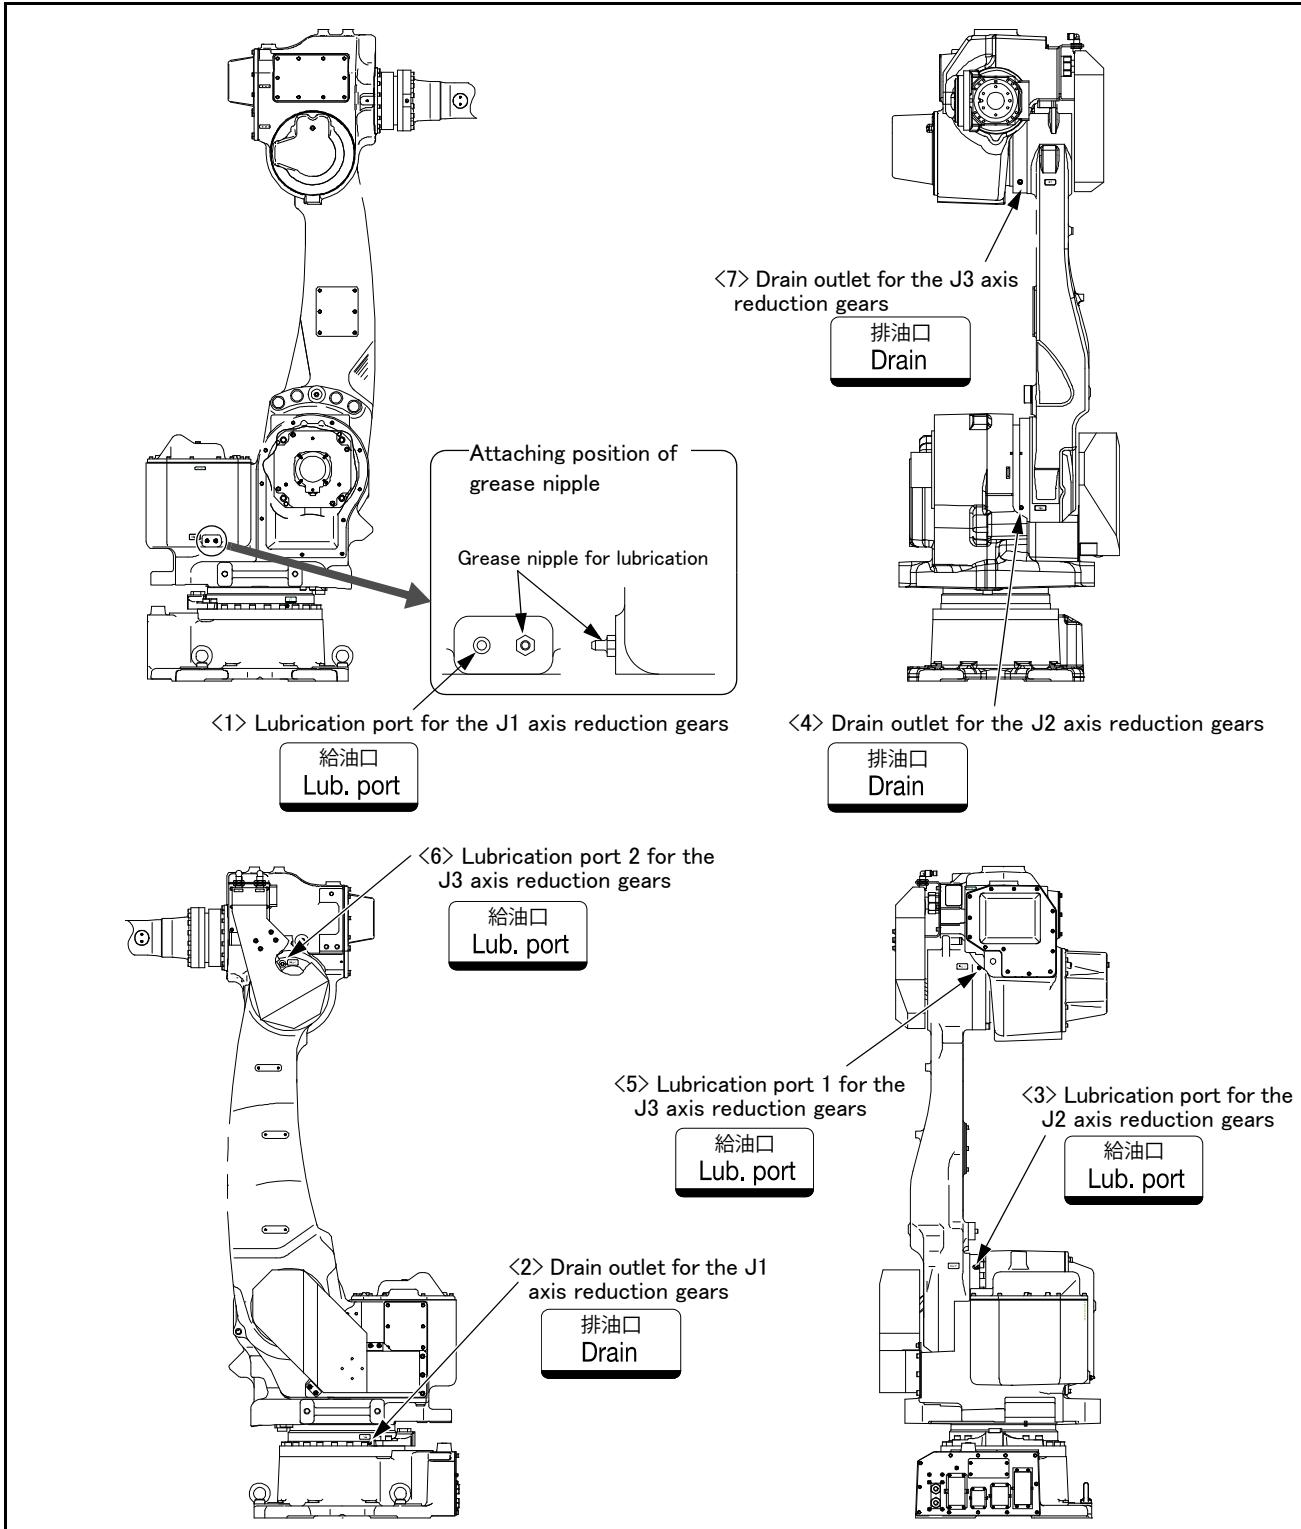
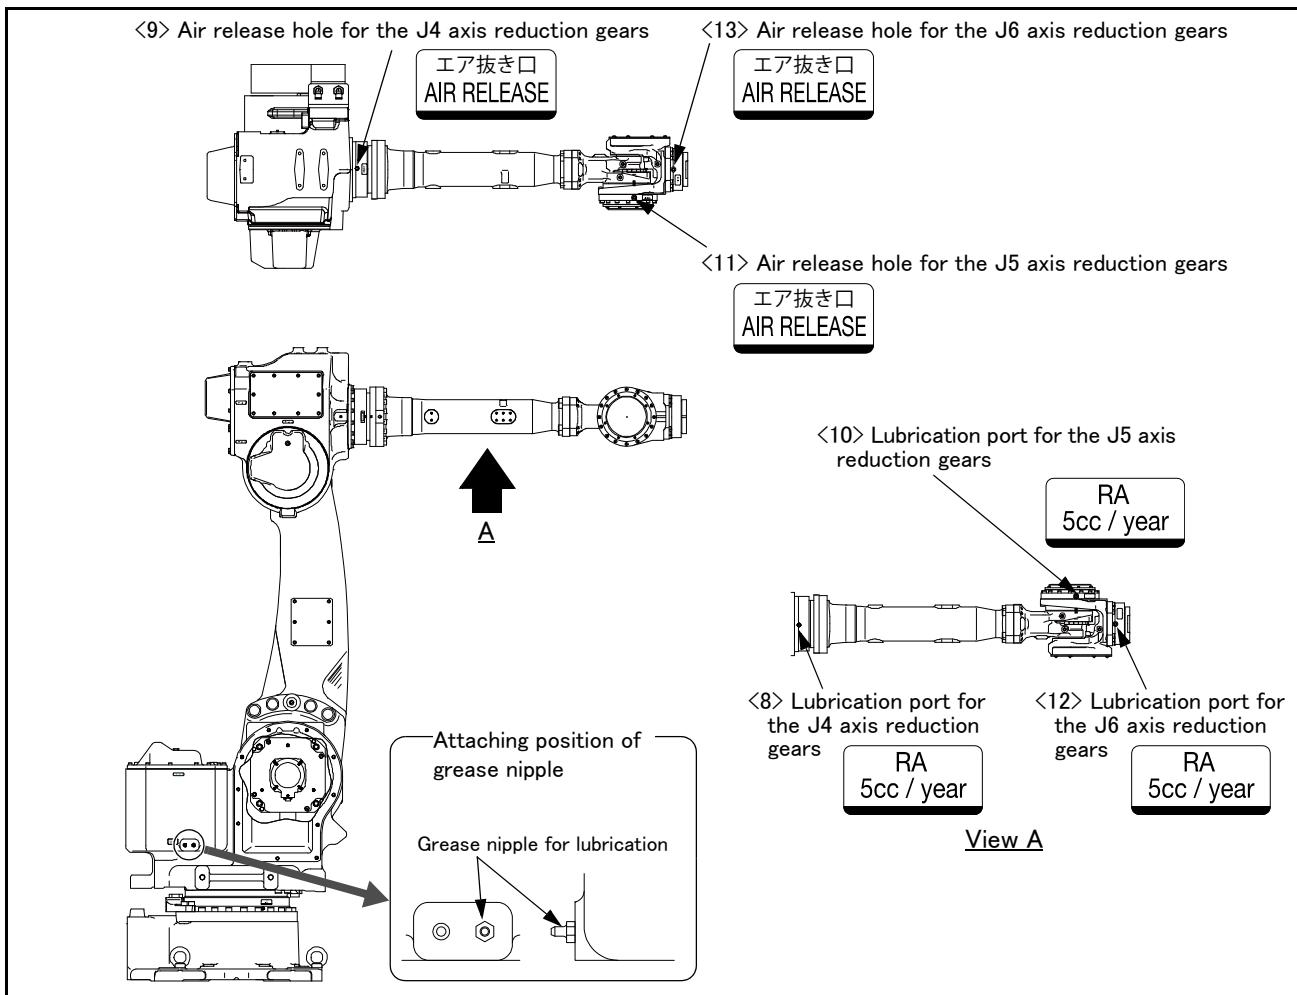

Fig.5-20 : Lubrication positions (RV-35F/50F/70F series: J1, J2, and J3 axis)
Fig.5-21 : Lubrication positions (RV-35F/50F/70F series: J4, J5, and J6 axis)
The grease nipple position is shown in Fig. 5-20 and Fig. 5-21. The lubrication specifications for each place are shown in Table 5-5. Refer to the Page 92, "5.3.2 Installing/removing the cover" for the method of removing and installing the cover.
- The numbers in the Table 5-5 correspond to the supply positions in Fig. 5-20 and Fig. 5-21.